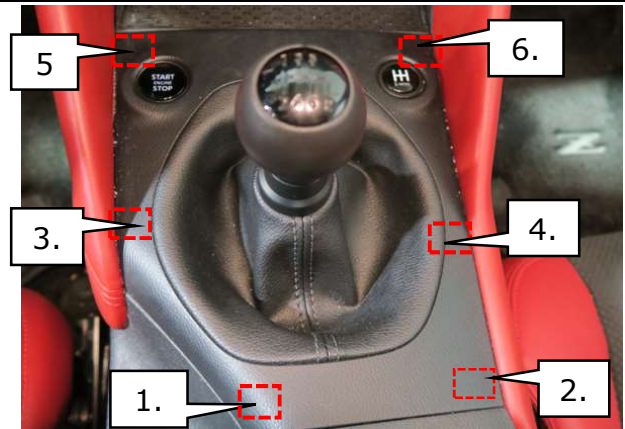

Figure 9
- Using a finesse stick, disengage the clips in order 1-6 as shown in Figure 9